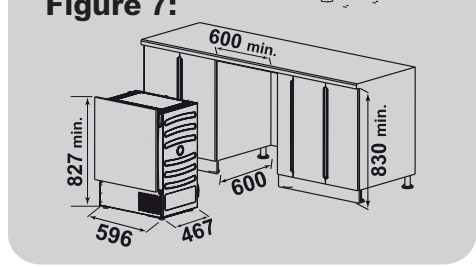

Figure 7:
- Slide the dryer into an opening of the size indicated in the diagram (**figure 7**).
- Firstly, slide the dryer into an opening of the size indicated in the diagram (**figure 7**).